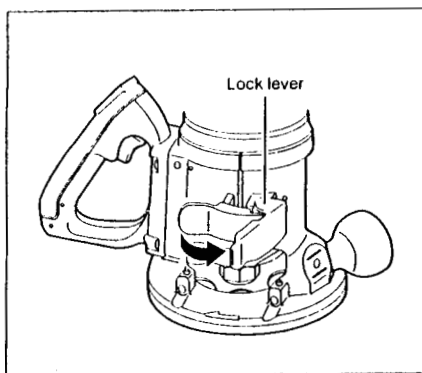

Fig. 4
1. Open the lock lever. (Fig. 4)